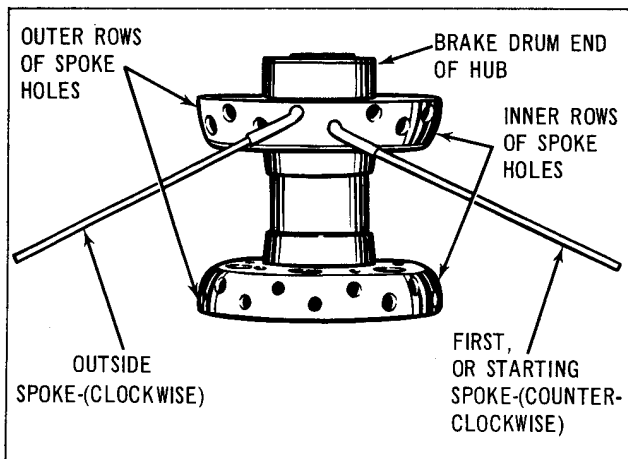

Figure 2-7. Starting Spokes in Wheel Hub
2. Insert spokes in ten inner spoke holes of brake side flange (see Figure 2-7).